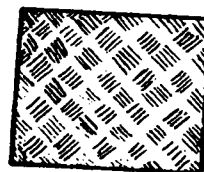

Fig. 10
- 3 To improve the finish of the surface, scraping of the points during the final steps, should be done in different directions (Fig. 10).